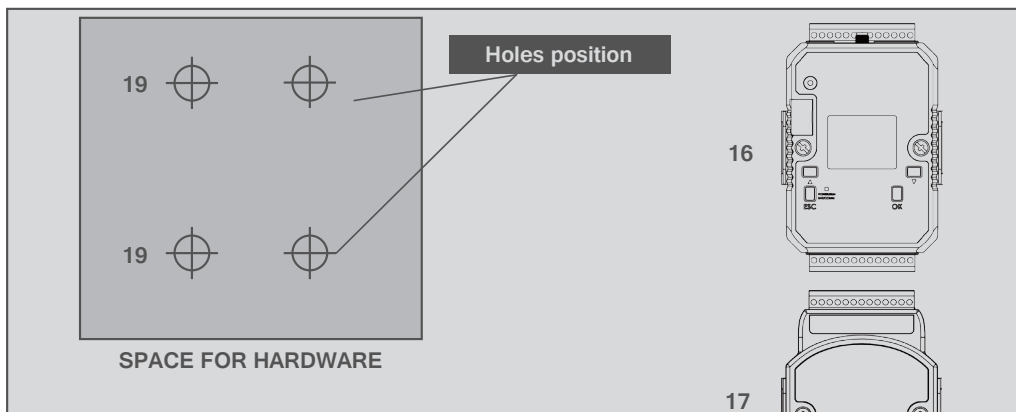

Figure 7 - Holes to fix Advantech UTX-3117 gateway
There are four M3 holes to fix Advantech UTX-3117 gateway (holes n°19 in Figure 7).
2. Place Advantech UTX-3117 gateway in the space provided, as shown in Figure 7.
3. Tighten the screws in the holes n°19, as shown in Figure 7.